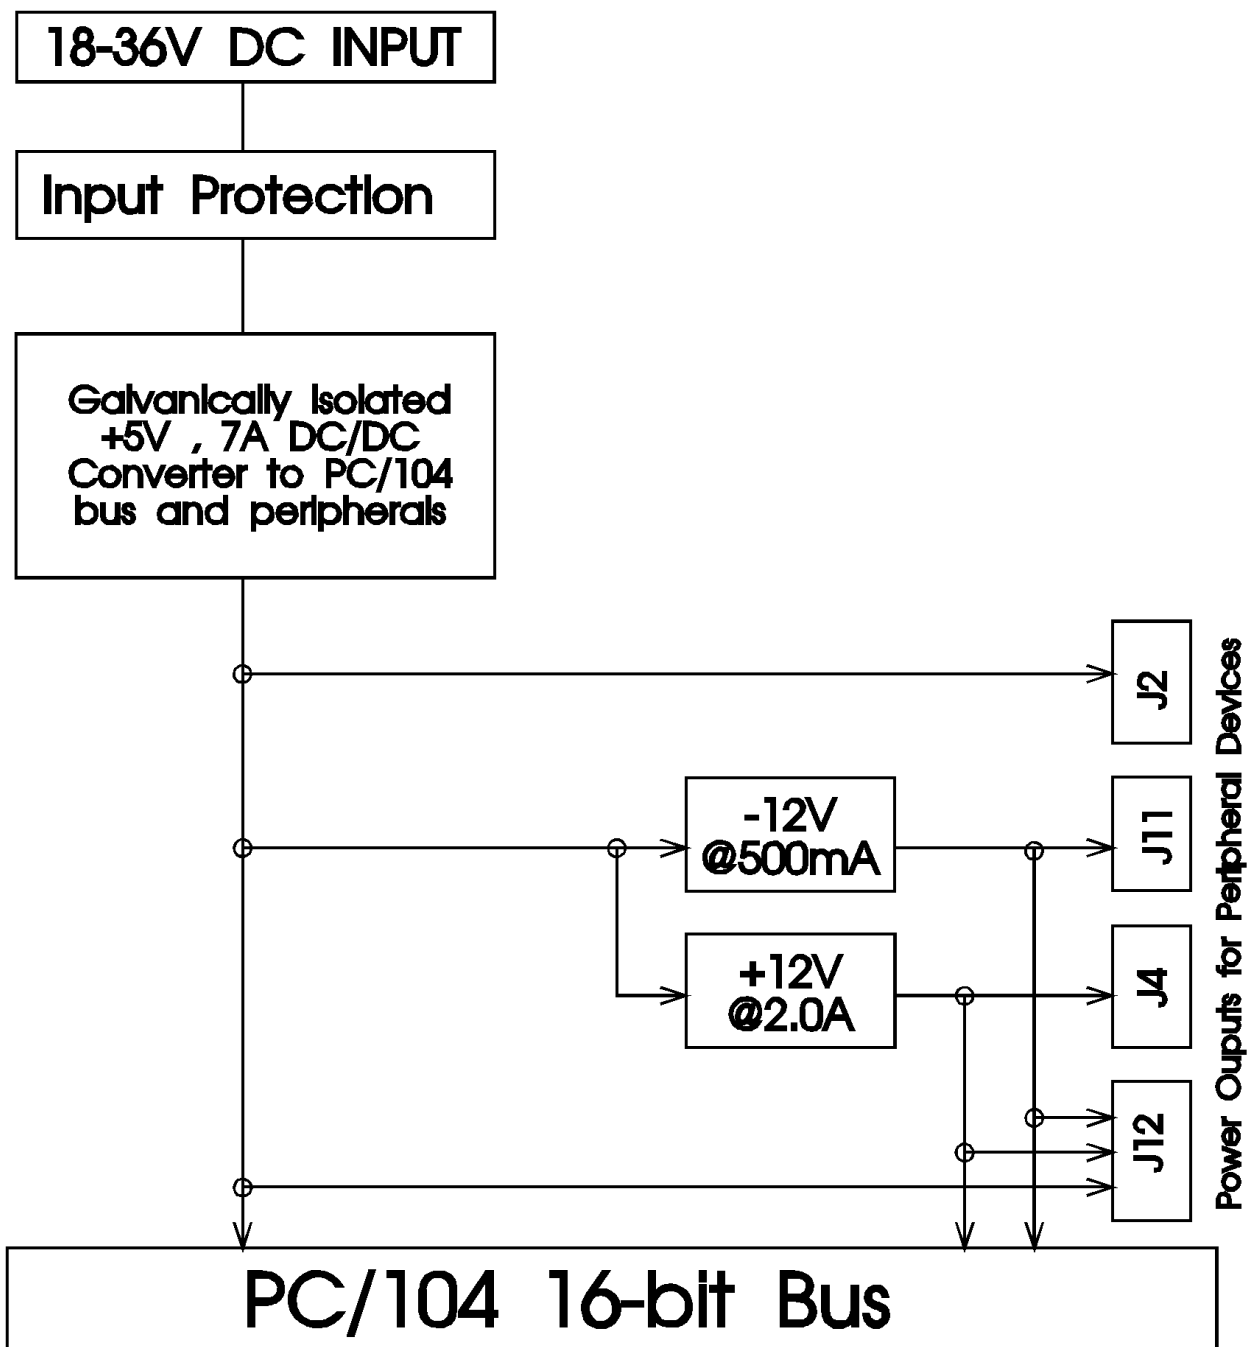

Fig. 3-1 Block diagram of the IPWR104HR-35W
- Fig. 3-1: IPWR104HR-35W Block diagram**